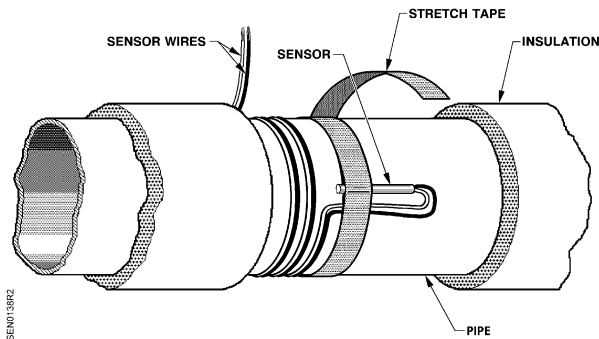

Figure 2. Pipe Temperature Sensor.
2. Using an abrasive tool, clean the surface of the pipe where the sensor is to be mounted to ensure good contact with the pipe. See Figure 2.
3. Bend the sensor wires back along the pipe next to the sensor for strain relief. See Figure 2.
4. Secure the sensor to the pipe with 1-1/2 to three wraps of the stretch tape provided. Stretch the tape about 25% as you wrap it around the pipe. See Figure 2.
5. Wrap the excess sensor wires around the pipe and secure with the stretch tape or duct tape. See Figure 2.